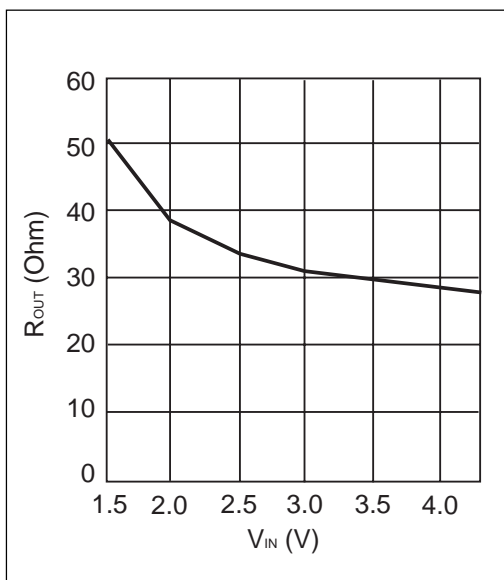

Figure 1. Output Resistance vs. Supply Voltage
**Figure 19.** SP6828/6829 in its Typical Operating Circuit as a Negative Voltage Converter; this Circuit Was Used to Obtain the Typical Performance Characteristics Found in Figures 1 Through 18 (unless otherwise noted)